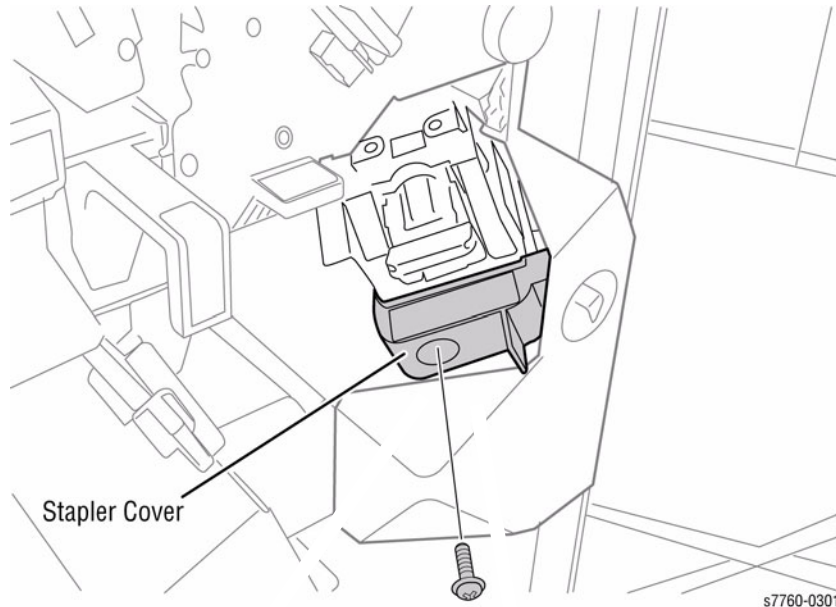

Figure 1 Removing Stapler Cover
2. Removing the Stapler Cover (Figure 1).